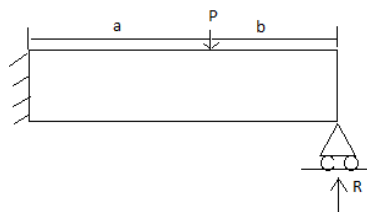

Fig.2
- 9 a) Explain the principle of virtual work? (3)
- b) State and prove Castiglianos's first theorem. (7)
- 10 a) Write the general expression for twisting moment for shafts of non-circular cross section incorporating warping function  $\Psi(x,y)$ . (3)
- b) What is meant by warping of non-circular shafts? Prove that St.Venants warping function is harmonic? (7)
- 11 a) Explain the minimum potential energy theorem? (2)
- b) Find the support reaction R in Fig.2 at the end of the cantilever beam using strain energy method. (Load acting is P at a distance of 'b' from the roller support). (8)